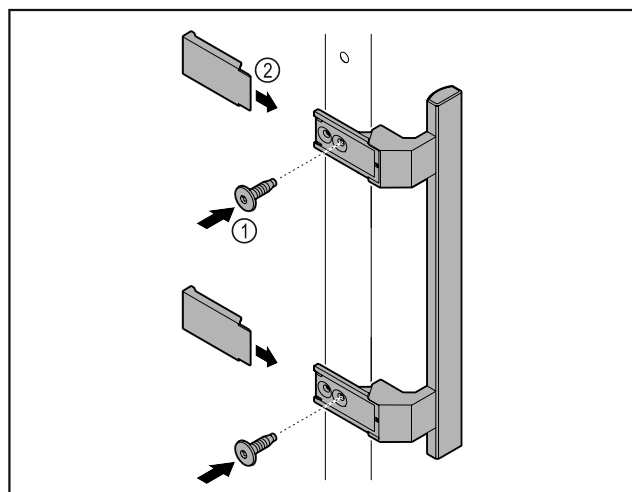

Fig. 48
- Attach handle from accessory kit to the door using the screws Fig. 48 (1) supplied.
- Put on cover Fig. 48 (2).